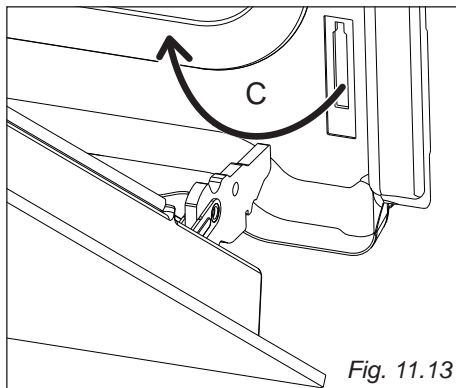

Fig. 11.13
- Withdraw the hinge hooks from their location following arrow "C" (fig. 11.13).